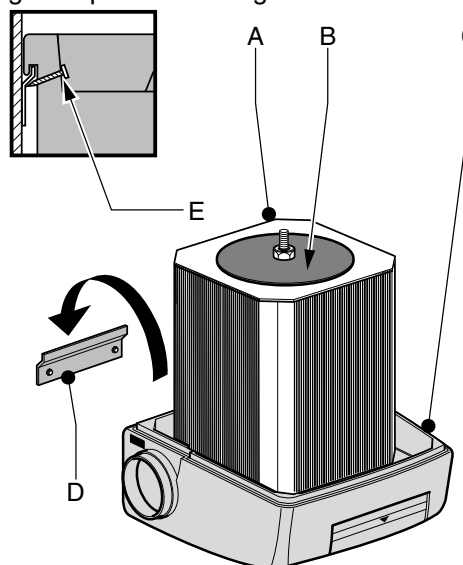

Fig. 3
Lift the Statiflex 200-M onto the mounting bracket; refer to Figure 3. The installation may be made permanent by running (2) self-tapping screws (Fig. 3E) in through the plastic base against the wall bracket.